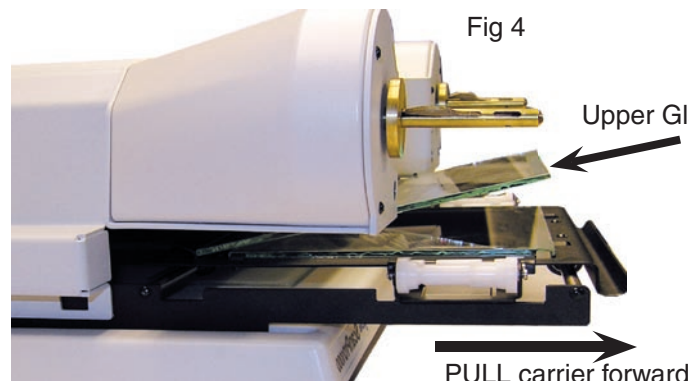

Fig 4
2. Pull the CARRIER HANDLE forward so that the UPPER GLASS is in the OPEN (UP) position, Fig 4.